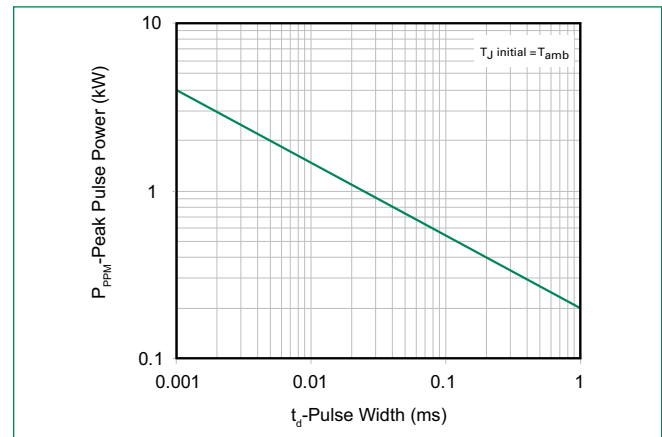

Figure 3 -
1. Non-repetitive current pulse, per Fig. 4 and derated above T_J (initial) $= 25^\circ\text{C}$ per Fig. 3.